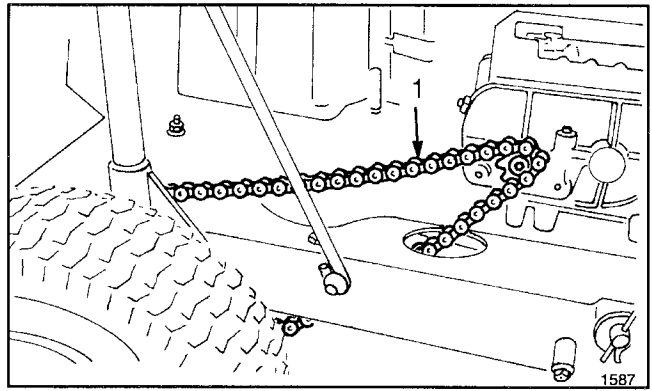
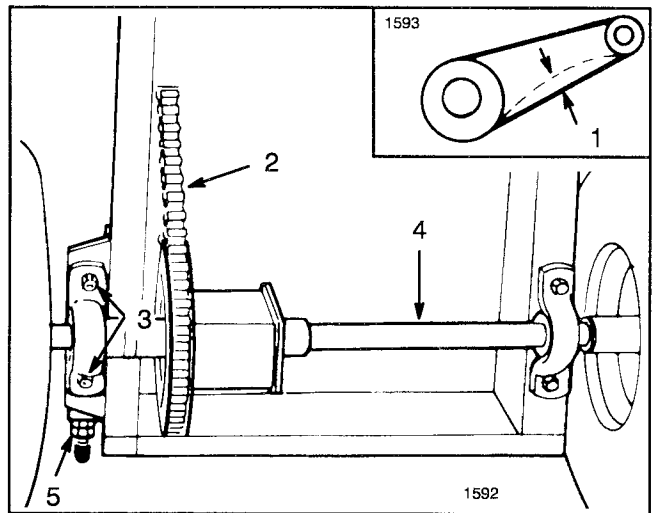

Figure 22
Figure 23
2. Check deflection of drive chain by lifting up and pressing down on chain with moderate pressure at mid span (Fig. 22). There should be 1/8 of an inch (3 mm) total deflection (Fig. 23). If deflection is not as specified, an adjustment is required—steps 3-13.
7. Loosen four flange nuts securing pillow blocks w/differential axle to the rider frame (Fig. 23).
8. Loosen rear jam nut on chain tensioner (Fig. 23).
11. Since differential axle must be parallel to rear of chassis, measure distance from center of pillow blocks to rear of chassis (Fig. 23). Difference between the two measurements must not exceed 1/8 inch. If difference exceeds 1/8 inch, differential axle is not parallel with chassis; therefore it must be readjusted.